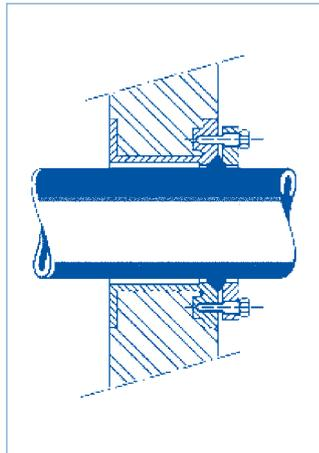

Figure 34: A special shaped sealing
5. Special shaped sealing, (Figure 34).